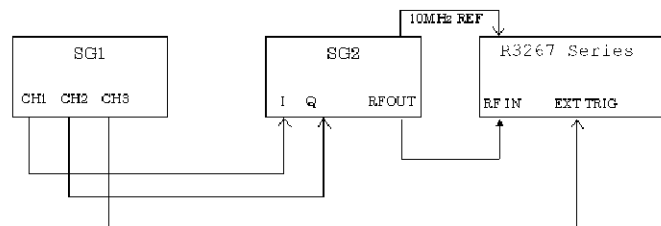

Figure 6-5 Setup of Code Domain Power Accuracy Measurement (REVERSE Link)
1. Connect equipment as shown in Figure 6-5.